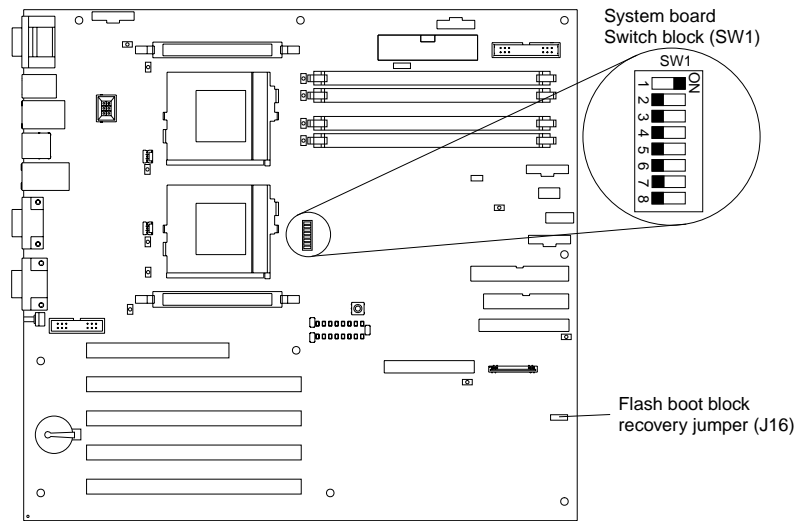

Figure 2. Boot block jumper location
2. Locate the boot-block jumper block (J16) on the system board. See Figure 2 on page 78.
Figure 2 on page 78 shows the location of the boot block jumper on the system board.